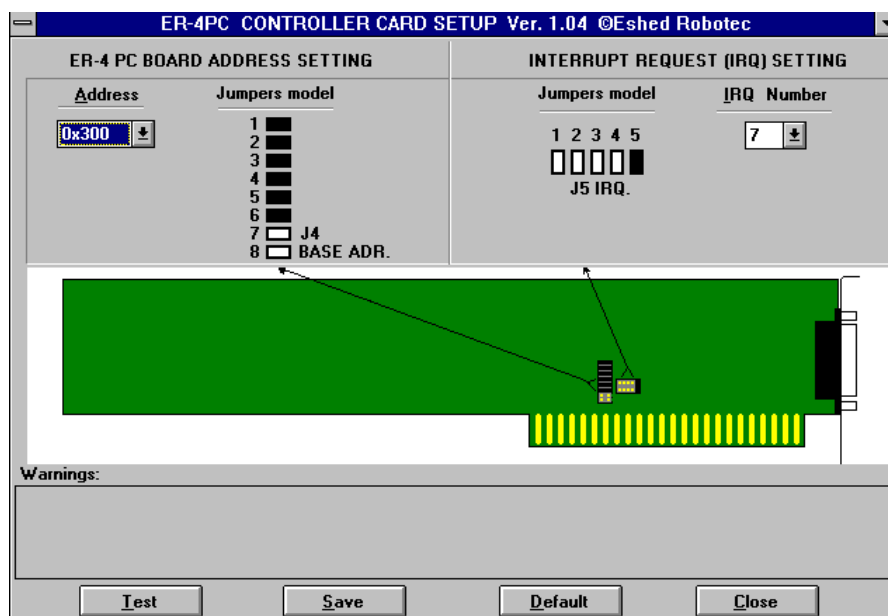

Figure 16: Controller Card Setup
The Controller Card Setup window will be displayed on your screen, as shown in Figure 16.
1. Click on the Setup PC Controller icon in the SCORBASE program window. The Controller Card Setup window will be displayed on your screen, as shown in Figure 16 (on preceding page).